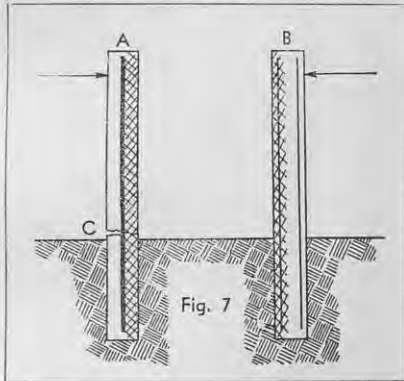

Fig. 7
In Fig. 7 on page 131 the direction of the force applied to the posts is represented by arrows. The shaded sides of the posts are under compression, while the unshaded half is under tension. Post A, which is reinforced with a single thick steel bar, tends to crack off at or near ground level (C). The crack can go half way through the post before it meets with the resistance of the steel, which can quite easily become bent, allowing the crack to go right through. With post B, which is reinforced with a much lighter rod in each corner, the tensile strain, from whatever direction it is applied, is always offset by a steel rod just below the surface, and cracks do not develop. The steel must, however, be covered with 3/4 in. of concrete to